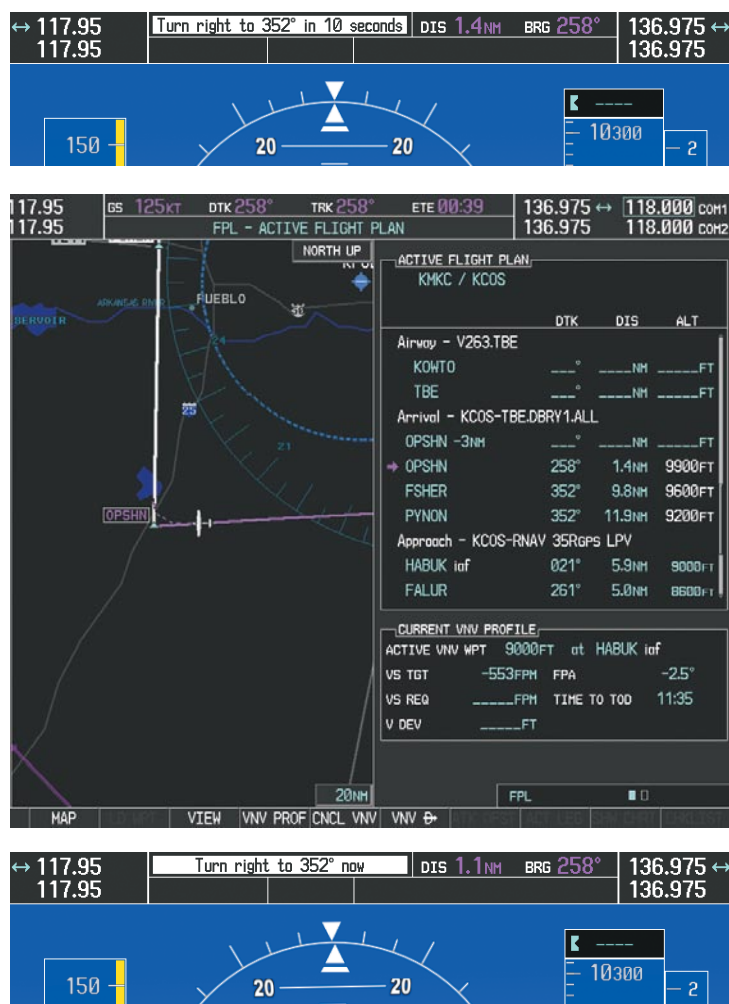

Figure 5-131 Turn to intercept OPSHN to FSHER Leg
- 18) The aircraft is approaching OPSHN. The upcoming turn and next heading are annunciated at the top left of the PFD as seen in Figure 5-131. Initiate the turn and maneuver the aircraft on a track through the turn radius to intercept the magenta line for the OPSHN to FSHER leg and center the CDI.